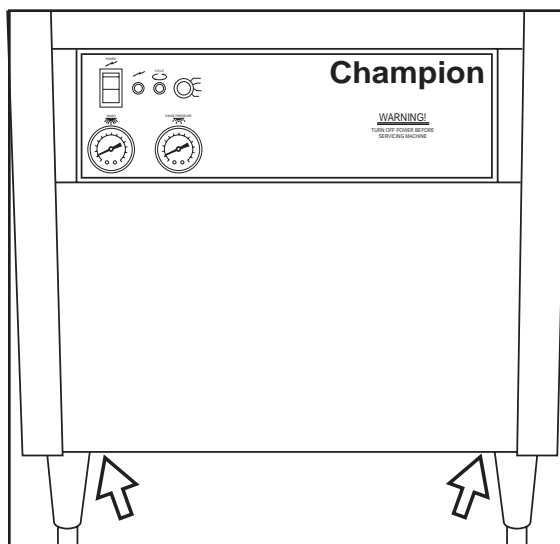

Figure 1
5. Refer to Fig. 1. Remove (2) screws that hold the front panel. Remove the front panel in preparation for service connections.